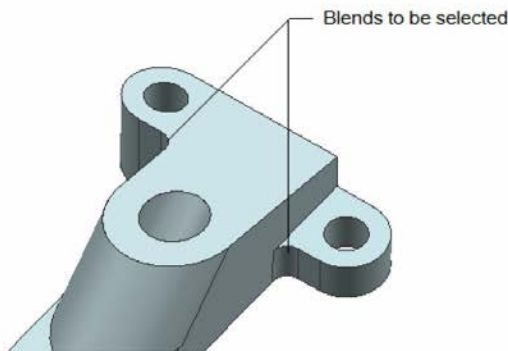

Figure 13-110 Blends to be selected
- h. Change the radius of the fillet using the **Resize Blend** tool, refer to Figure 13-110.
2. Select the two blends of the base plate, refer to Figure 13-110.